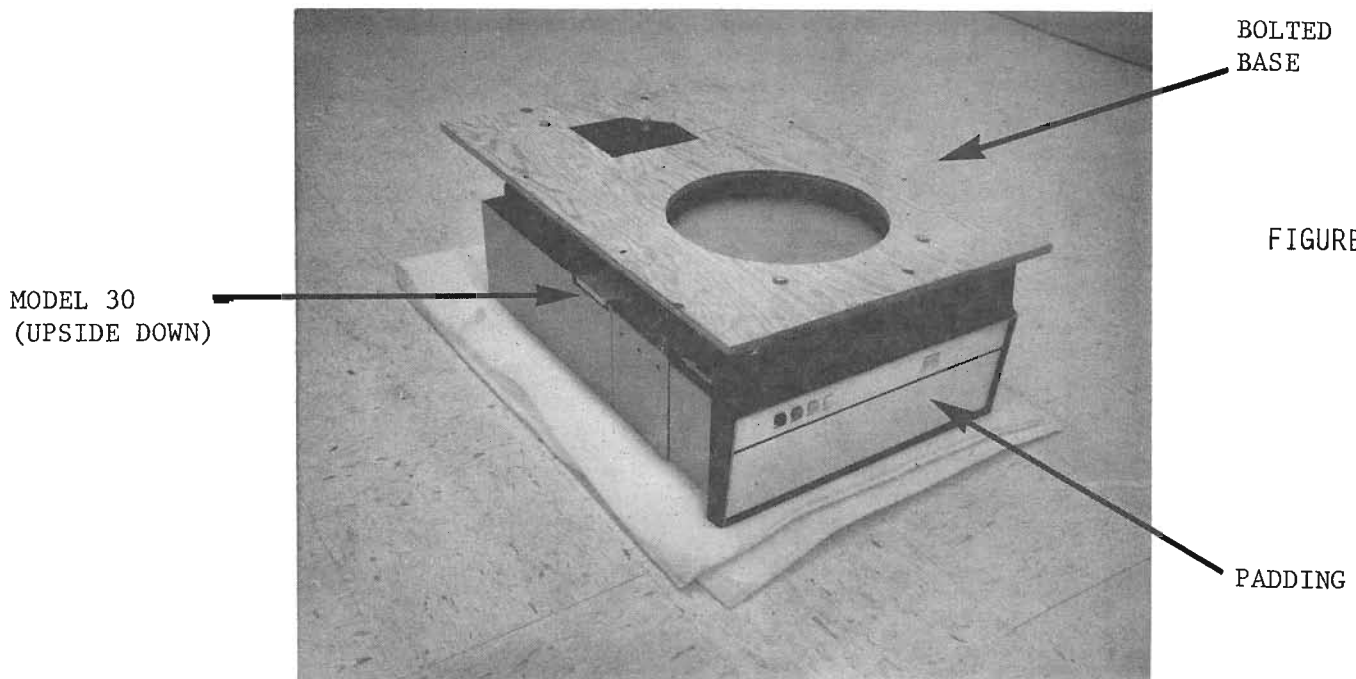

FIGURE 9
2. MODEL 30 INSTALLATION - See Figures 9 - 18
- 5) Two individuals should grasp the bolted plywood base, gently lift out the disk unit, and set it down (upside down at this point) on the padding. See Figure 9. Remove the interface cables from box #2.